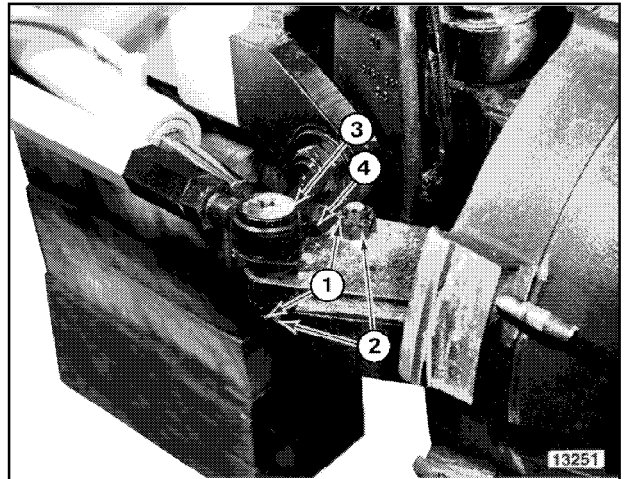

Figure 22
- Remove cotter pins (1, Figure 22), slotted nuts (2) and flat washers from tie rod (3) and steering cylinder rod end (4).